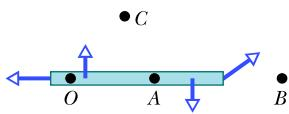

Figure 12.5 Question 6.
**6** Figure 12.5 shows an overhead view of a uniform stick on which four forces act. Suppose we choose a rotation axis through point  $O$ , calculate the torques about that axis due to the forces, and find that these torques balance. Will the torques balance if, instead, the rotation axis is chosen to be at (a) point  $A$  (on the stick), (b) point  $B$  (on line with the stick), or (c) point  $C$  (off to one side of the stick)? (d) Suppose, instead, that we find that the torques about point  $O$  do not balance. Is there another point about which the torques will balance?